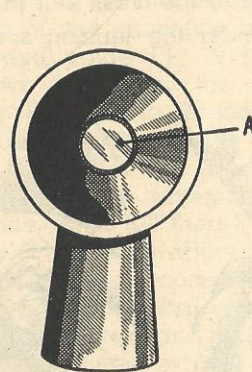
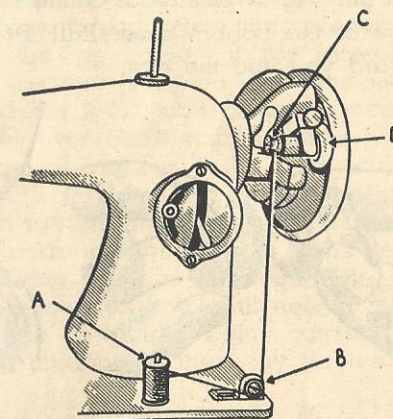

FIGURE 3
FIGURE 4
Loosen the BALANCE-WHEEL-STOP-MOTION-SCREW Fig. 3 (A) towards you, allowing the balance wheel to run free; place spool of thread on spool pin Fig. 4 (A) at the foot of the machine. Pass the thread through tension-bracket Fig. 4 (B) and up to the thread pressing lever Fig. 4 (C). Wind thread from inside outwards several times around bobbin, which had been placed on the left end pin of the rubber ring Fig. 4 (D). Be sure that the bobbin is pressed to the end of the spindle. Press down the bobbin and bobbin winder latch will drop down and hold the bobbin winder-ring against the balance wheel. Then operate the machine as you would to sew.